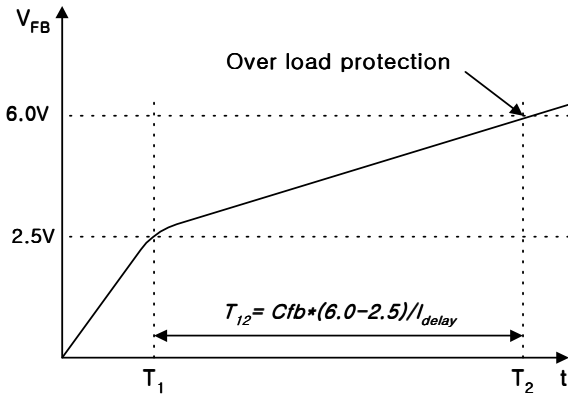

Figure 7. Over load protection
3.1 Over Load Protection (OLP) : Overload is defined as the load current exceeding a pre-set level due to an unexpected event. In this situation, the protection circuit should be activated in order to protect the SMPS. However, even when the SMPS is in the normal operation, the over load protection circuit can be activated during the load transition. In order to avoid this undesired operation, the over load protection circuit is designed to be activated after a specified time to determine whether it is a transient situation or an overload situation. Because of the pulse-by-pulse current limit capability, the maximum peak current through the Sense FET is limited, and therefore the maximum input power is restricted with a given input voltage. If the output consumes beyond this maximum power, the output voltage (V_o) decreases below the set voltage. This reduces the current through the opto-coupler LED, which also reduces the opto-coupler transistor current, thus increasing the feedback voltage (V_{fb}). If V_{fb} exceeds 2.5V, D1 is blocked and the 3.5 μ A current source starts to charge C_B slowly up to V_{cc} . In this condition, V_{fb} continues increasing until it reaches 6V, when the switching operation is terminated as shown in Figure 7. The delay time for shutdown is the time required to charge C_B from 2.5V to 6.0V with 3.5 μ A. In general, a 10 ~ 50 ms delay time is typical for most applications.